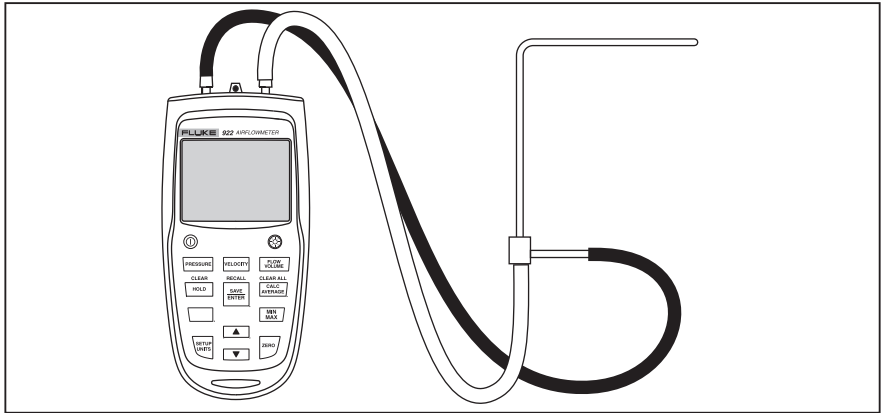

Figure 4. Pitot Tube Connection
2. Connect the hoses to the pitot tube and to the Meter. The “**Input (+)**” pressure port on the Meter connects to the yellow hose from the total pressure connection of the pitot tube. The “**Ref (-)**” pressure port on the Meter connects to the black hose from the static pressure connection of the pitot tube. See Figure 4.